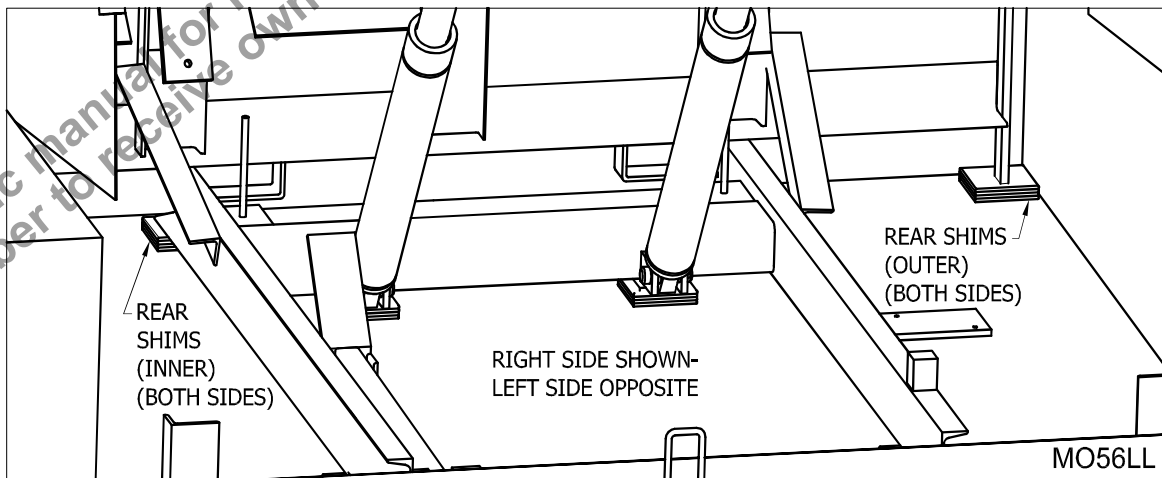

Figure 33: Rear Shims
3. \_\_\_ Rear shims (Left and Right side). (See "Figure 33: Rear Shims" on page 28)